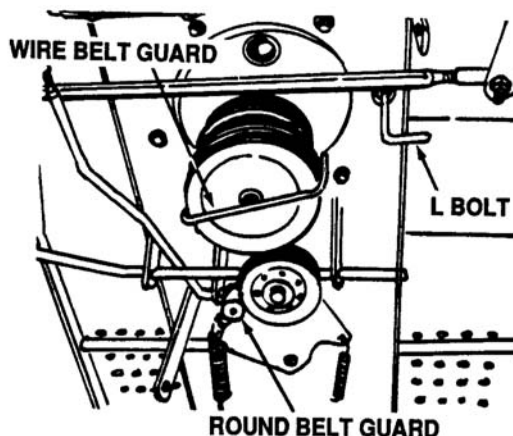

Figure 8-11. Removing Round Belt Keeper
2. Remove round belt keeper from idler by removing cotter hairpin. See Figure 8-11.